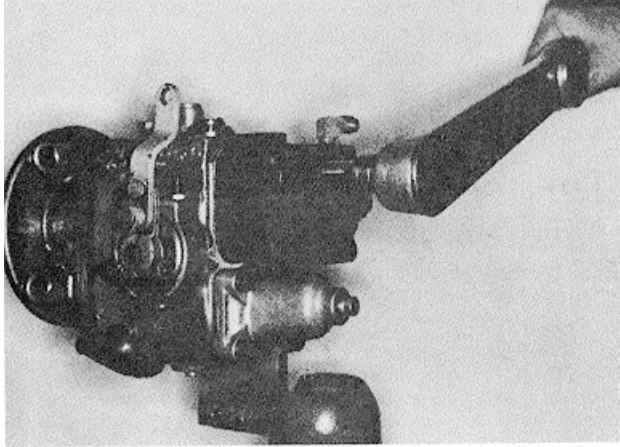

Fig. 5-109, F562. Torquing gear pump capscrews
2. Torque capscrews in increments to 11 to 13 foot pounds [15 to 18 N. m]. Fig. 5-109. Check gear pump rotation freedom.